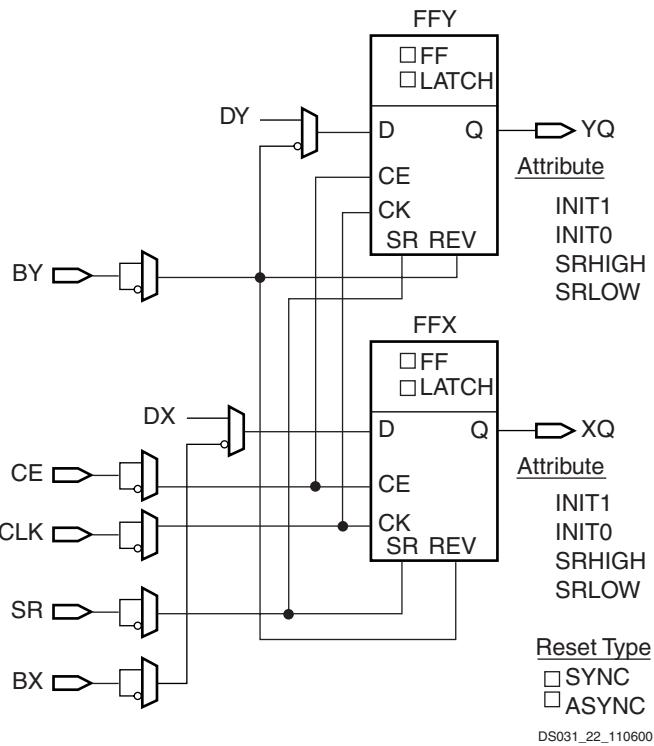

Figure 18: Register/Latch Configuration in a Slice
In addition to clock (CK) and clock enable (CE) signals, each slice has set and reset signals (SR and BY slice inputs). SR forces the storage element into the state specified by the attribute SRHIGH or SRLOW. SRHIGH forces a logic “1” when SR is asserted. SRLOW forces a logic “0”. When SR is used, a second input (BY) forces the storage element into the opposite state. The reset condition is predominant over the set condition (Figure 18).